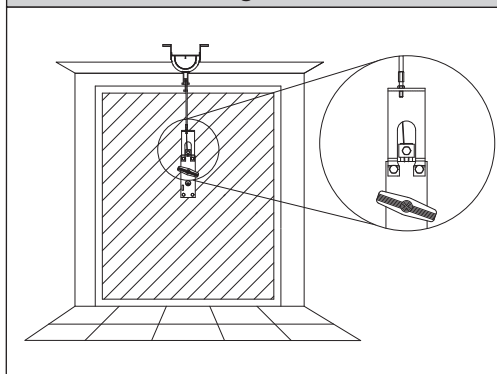

Fig. 23
- SET/S** External release device with retracting handle for sectional doors measuring max 50mm (fig.23).